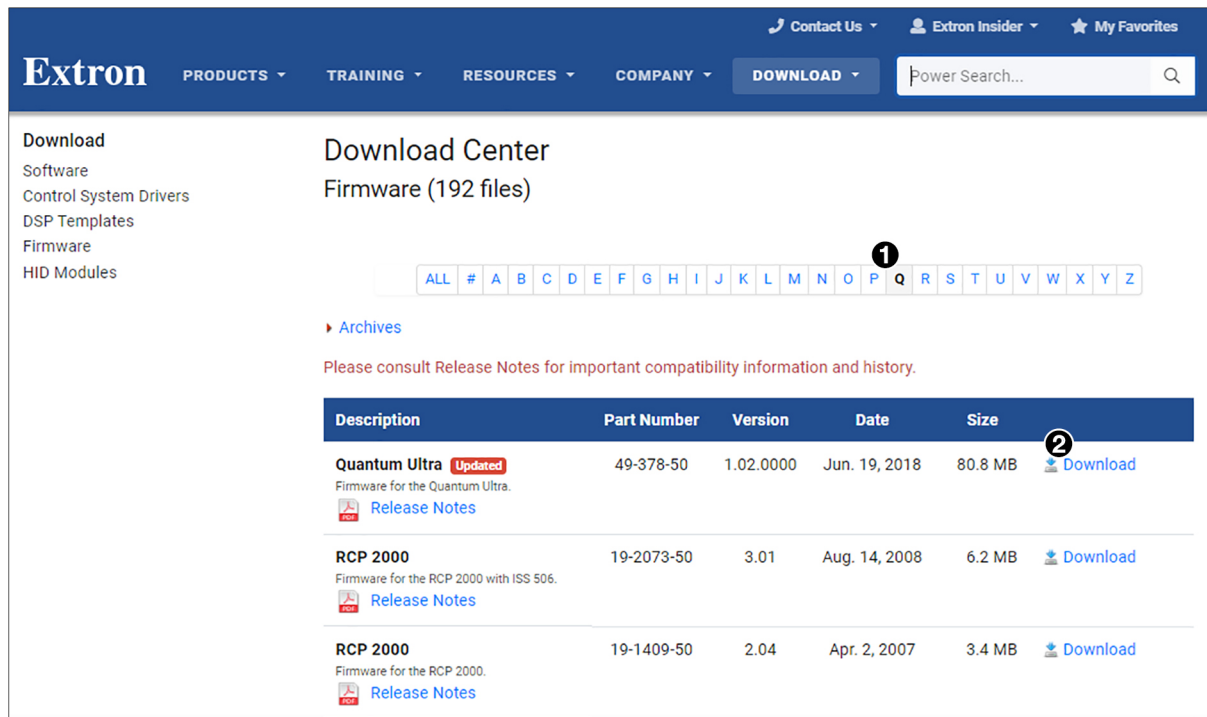

Figure 53. Download Center Page for Firmware
2. On the Download Center screen, click the **Q** link (see figure 53, ①).
3. Scroll to locate the **Quantum Ultra** firmware and click the **Download** link at the far right (②).